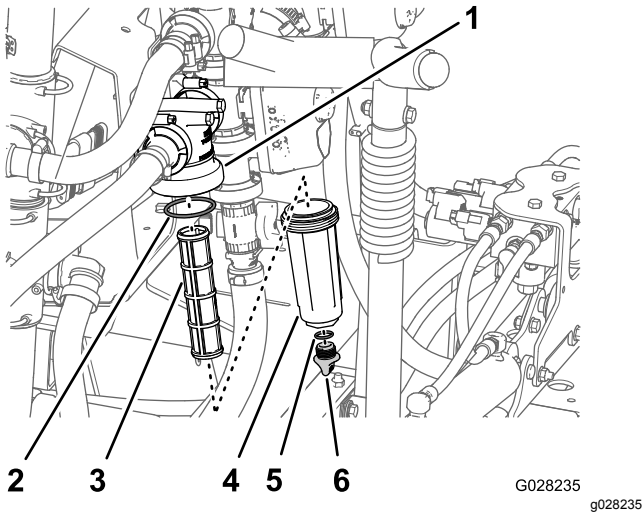

Figure 94
2. Align a drain pan under the pressure filter (Figure 94).
3. Rotate the drain plug counterclockwise and remove it from the bowl of the pressure filter (Figure 94).
4. Rotate the bowl counterclockwise and remove it from its filter head (Figure 94).
5. Remove the old pressure-filter element (Figure 94).
6. Check the O-ring for the drain plug (located inside the bowl) and the O-ring for the bowl (located inside the filter head) for damage and wear (Figure 94).
7. Install the new pressure-filter element into the filter head (Figure 94).
8. Install the bowl onto the filter head hand tight (Figure 94).
9. Install the plug into the bowl hand tight (Figure 94).